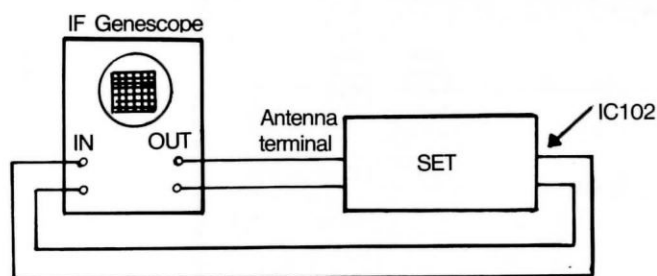

FIG. 1
- 2) Connection of measuring equipments(figure1)